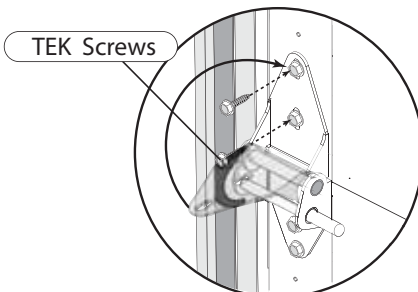

Figure 11
Once the section is in place, push up the upper leave(s) of the Roller Hinge(s) and attach to the section above with (2) 1/4"x 1" TEK Screws (Figure 11).